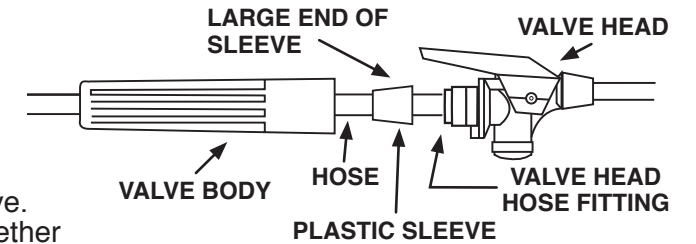

FIG. 8
- Slide valve body back along hose to expose connection of hose with valve head. (FIG. 8)
- (a) Slide plastic sleeve over hose (larger end of tapered sleeve toward end of hose). (FIG. 8)